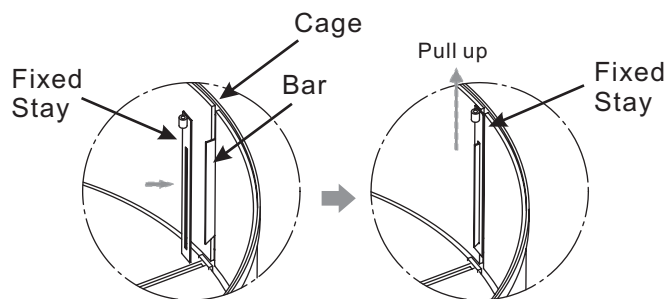

Figure 8
- A. Place the Glass Panels (M) between two Bars inside of the Cage (P).
- B. (Refer to Figure 8) Locate the Slots on the Fixed Stay (Q) over the Bar inside of the Cage (P). And then pull the Fixed Stay (Q) up until the slots is caught in the beveled end of the Bar.